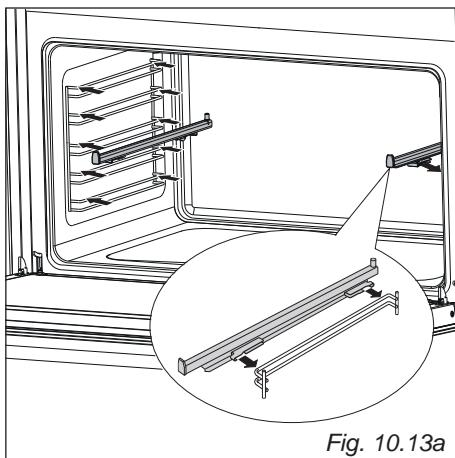

Fig. 10.13a
- Screw the side racks onto the oven wall (and the catalytic liners if supplied - fig. 10.13a).
- Fit the sliding shelf supports onto the top wire of a rack and press (fig. 10.13a). You will hear a click as the safety locks clip over the wire.
- Remove the side racks (and the catalytic liners if supplied) by unscrewing the fixing screws (fig. 10.13a).